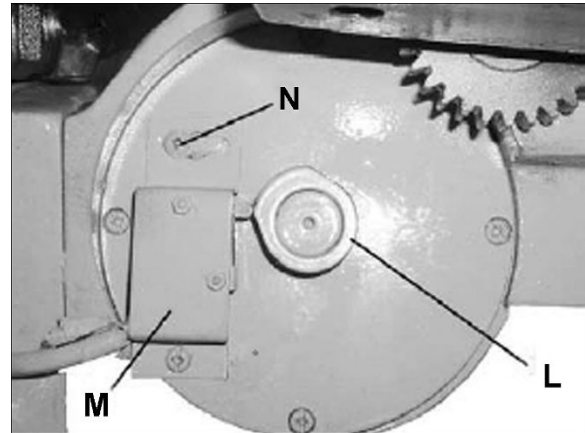

Figure 9-5
3. The cam should be sufficiently contacting the limiter, as shown in Figure 9-5. If it does not, Loosen set screw (L) and rotate cam so that it contacts the limiter, as shown in Figure 9-5.
4. If needed, loosen screw (N) and adjust limit device for proper contact with cam.
5. Tighten cam set screw (L).
7. Tighten screw (N).